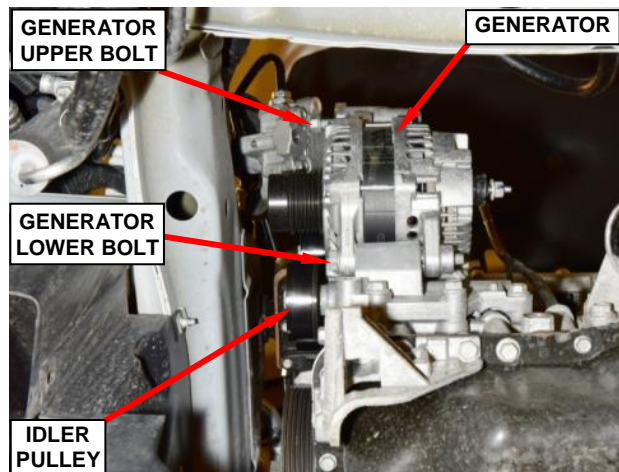

Figure 96 – Generator and Idler Pulley
86. Remove and save the lower accessory drive idler pulley (Figure 96).
87. Loosen the lower generator mounting bolt. It is not necessary to remove the lower bolt (Figure 96).
88. Support the generator then remove and save the upper generator mounting bolt (Figure 96)
89. Pivot the generator on the lower bolt tilting the generator forward toward the radiator to clear the power steering pump bracket. Lift the generator up to release the generator lower bolt from the power steering pump bracket bolt slot, then remove and save the generator (Figure 96).